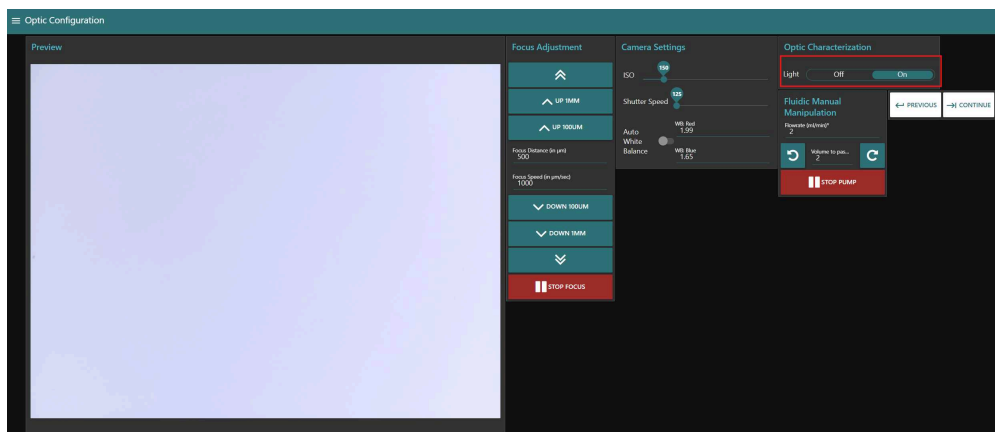

Figure 7: The red box highlights the location for turning on the LED
- Under "Optic Characterization", **switch on the "Light"** (Fig.7). You should see the "Preview" image turning from dark to light. The Preview image could be any colour so do not worry if yours show blue, red, green, etc. ; it will be adjusted later during the White Balance (WB) calibration. **You will need to switch on the light every time you use your PlanktoScope.**